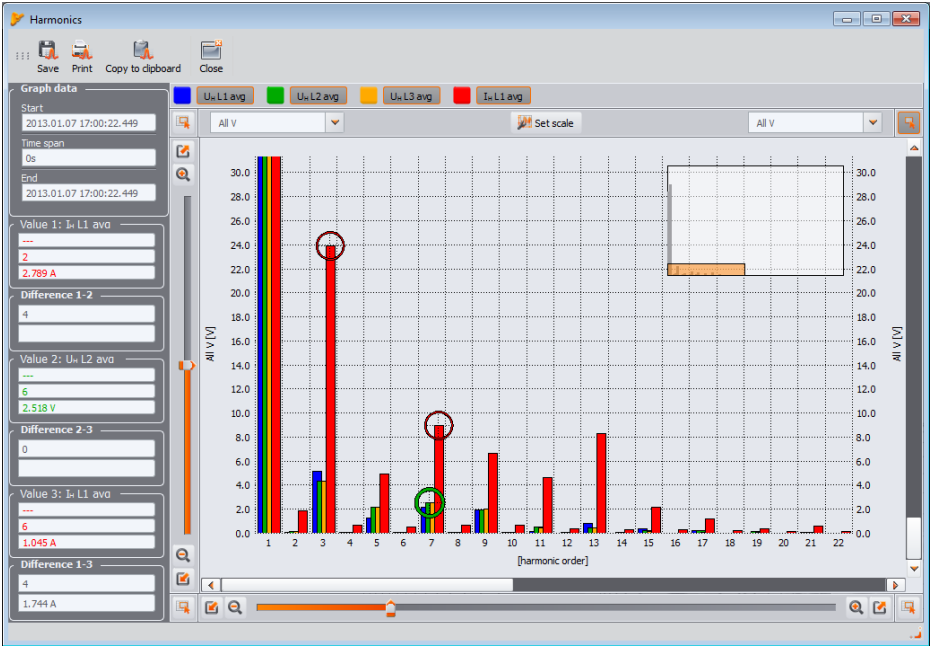

Fig. 55. Harmonics graph.
- **Harmonics** – a bar chart showing the harmonics of 1..50 order. This option is active even when only one harmonic is selected (other harmonics are also plotted). All other selected values (which are not harmonics, such as U, f, I, etc.) are ignored. If a time interval has been selected (more than one row), the plotted chart represents the average harmonics values in this interval (Fig. 55). Pressing alternately Alt-O buttons may provide the graph with or without the first harmonic. The same effect is obtained using the context menu and selecting **Hide first harmonic** (context menu is opened by placing mouse pointer on the graph and pressing right mouse key).